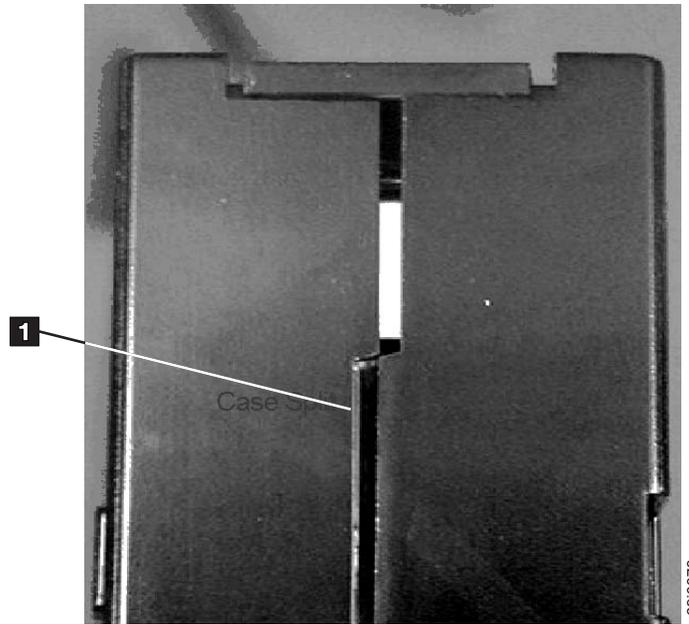

Figure 40. Gap in cartridge seam
3. Inspect the rear of the cartridge (the part that you load first into the tape load compartment) and ensure that there are no gaps in the seam of the cartridge case. (Refer to **1** in Figure 40 on page 155. If there are gaps in the seam, the leader pin may be dislodged and may need to be repositioned.)